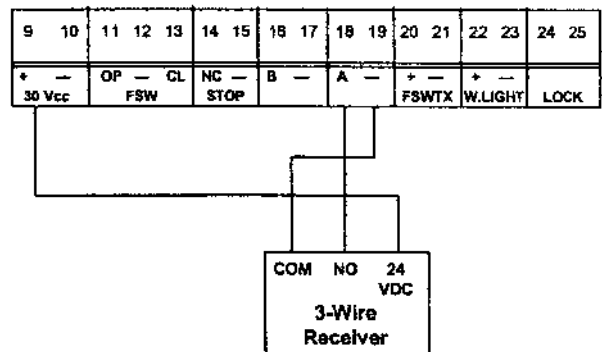
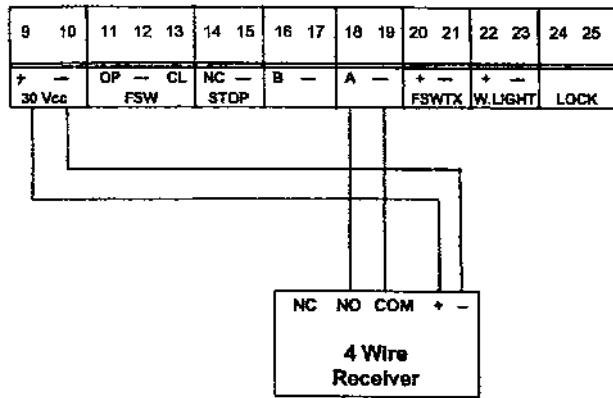

Figure 18. Connect a three-wire receiver
Figure 19. Connect a four-wire receiver
See Figure 18 for how to wire a three-wire receiver and Figure 19 for how to wire a four-wire receiver.
- Releasing the air from each end of the drive unit through the bleed screw holes (see Figure 18)